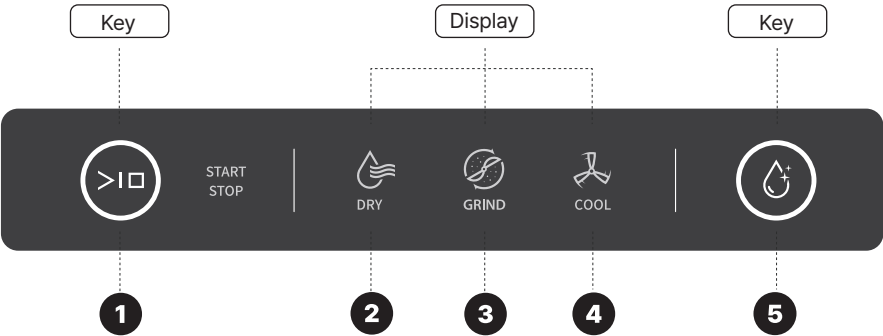

Fig. 2.1
- To disable voice messages, hold down the "Clean" key (5, Fig. 2.1) for more than 5 seconds with the lid open or closed; the appliance will produce the voice message: "The voice instruction function has been disabled."